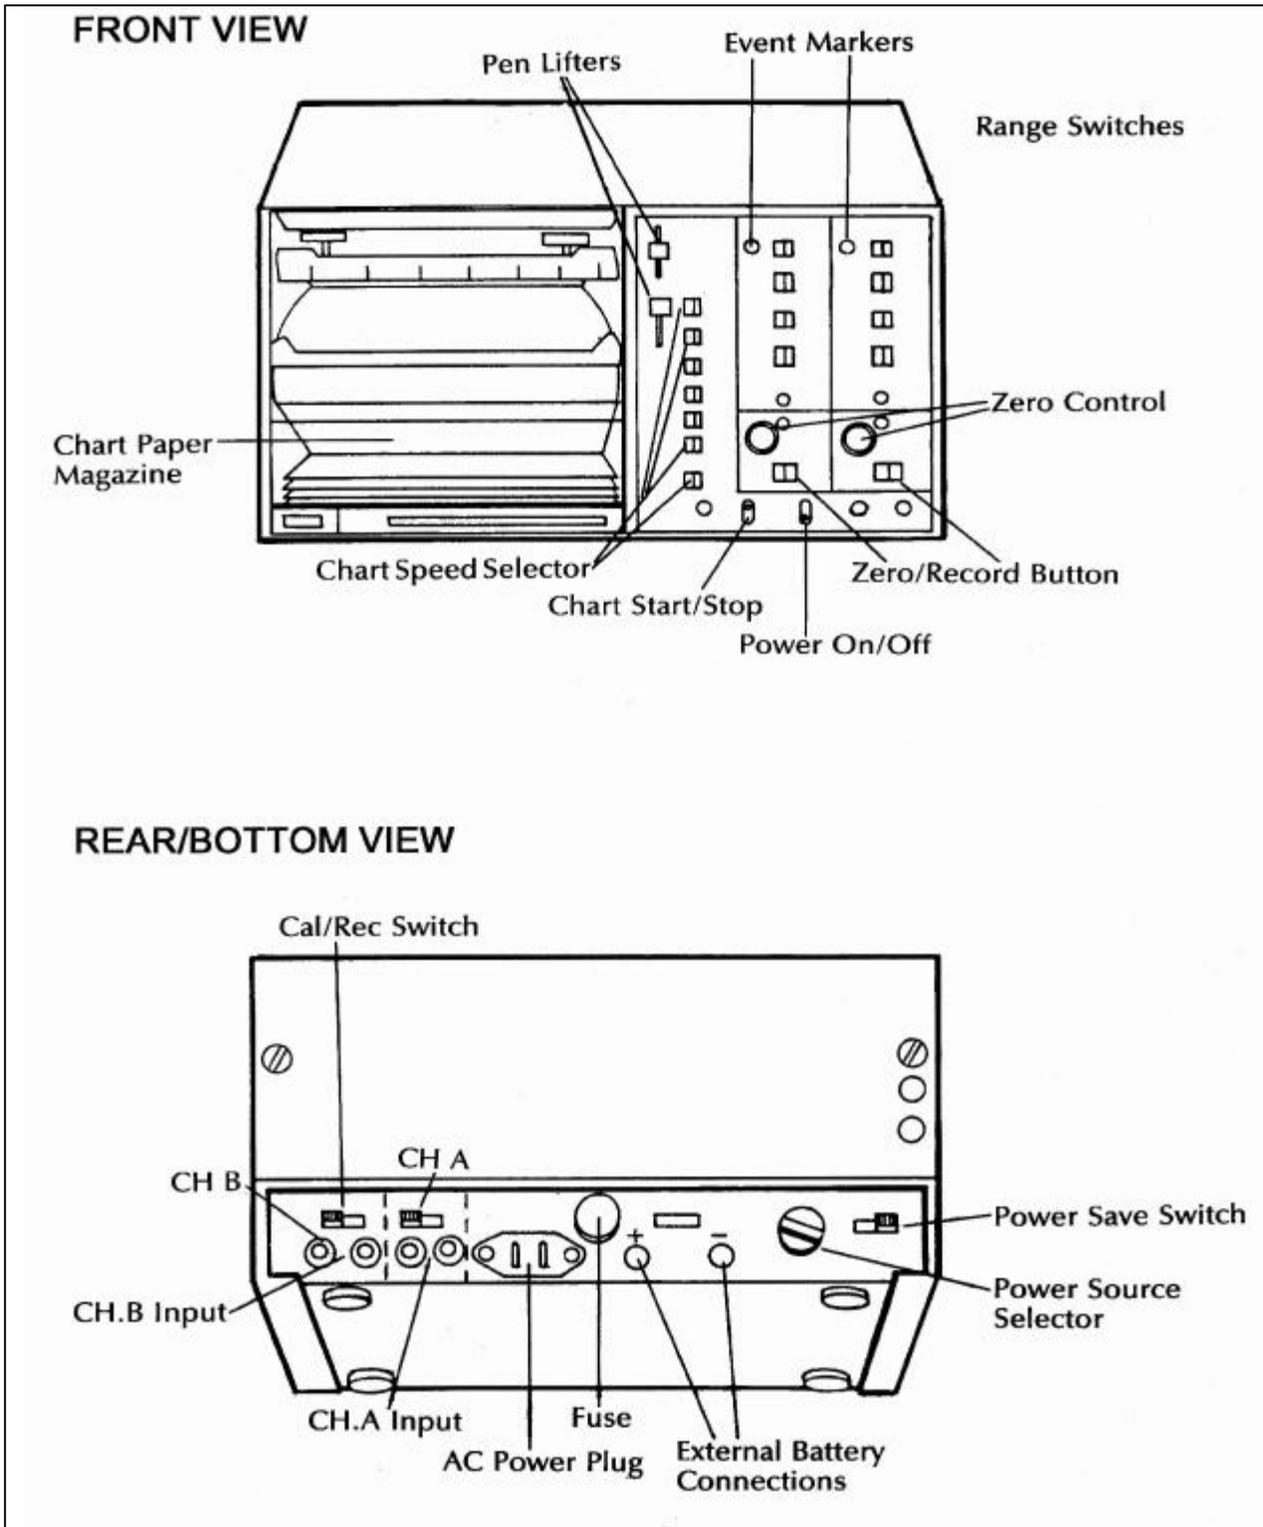

Figure 4-10. Strip Chart Component Diagram.
- Check that the power indicator switch on the back panel (Figure 4-10, Strip Chart Component Diagram,) is on the "AC LINE" position.
- Check the fuse located in the black holder on the back panel of the strip chart (Figure 4-10, Strip Chart Component Diagram).